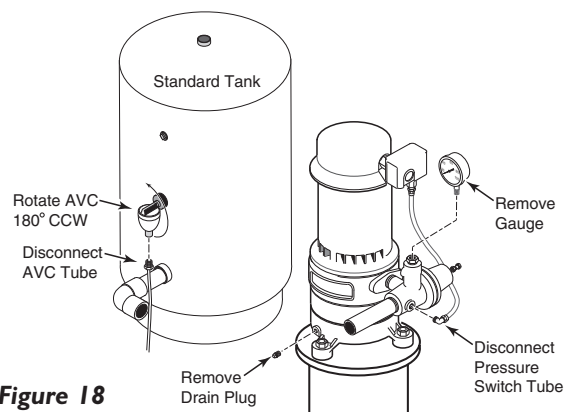

Figure 18
WINTERIZING (FIGURE 18)
- b. Disconnect air volume control (AVC) tubing and turn AVC 180° counterclockwise. Any water in AVC will then drain back into tank (see Figure 18).